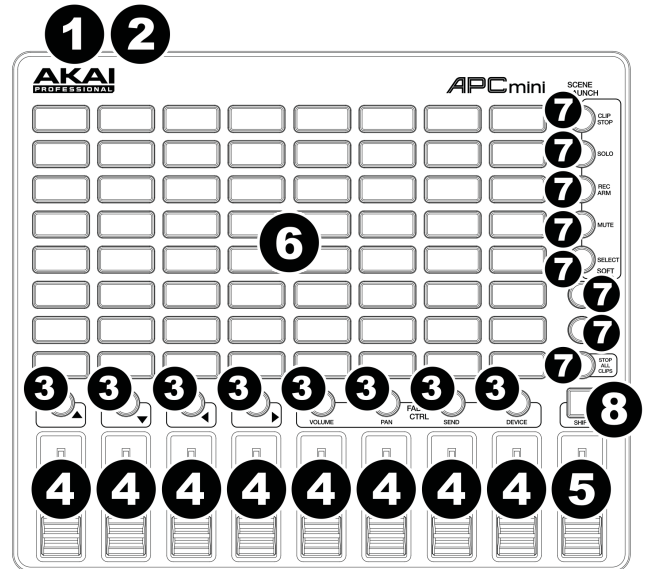

Figure 1: AKAI APCmini [9, p. 5].
Now, midizap will go into shift mode whenever the device generates the note D8 (which happens to be the shift key on an AKAI APCmini device, cf. Fig. 1(8); but any available button-like control will do). Pressing the D8 key again disables shift mode. Thus the above rule implements a "CapsLock"-style shift button. You can also do an ordinary shift button as follows:
Let's take the AKAI APCmini as an example again. We can map the first eight faders CC48 to CC55 on this device, cf. Fig. 1(4), to the MCP encoders CC16 to CC23 in shifted mode as follows:⁶
One important task, which we’ll use as an example below, is the decoding of meter (RMS level) data in the Mackie protocol. There, each meter value is represented as a channel pressure (CP) message whose value consists of a mixer channel index 0..7 in the “high nibble” (bits 4..6) and the corresponding meter value in the “low nibble” (bits 0..3). We will show how to map these values to notes indicating buttons on the AKAI APCmini (Fig. 1). Mod translations aren’t limited to this specific use case, however; similar rules will apply to other kinds of “scrambled” MIDI data.
To understand how this works, one must know that the buttons of the 8x8 grid, cf. Fig. 1(6), can be lit up by sending them the appropriate note messages. Rows number 4 to 8 (counting from the bottom) start at notes C2, G#2, E3, C4 and G#4, respectively. The velocities of the notes indicate the colors (0 means off, 1 green, 5 yellow, and 3 red). The rule above will thus light up buttons in different colors (depending on the low nibble of the channel pressure value), and in different columns (depending on the high nibble of the channel pressure value which ranges from 0 to 7 and indicates the mixer channel).